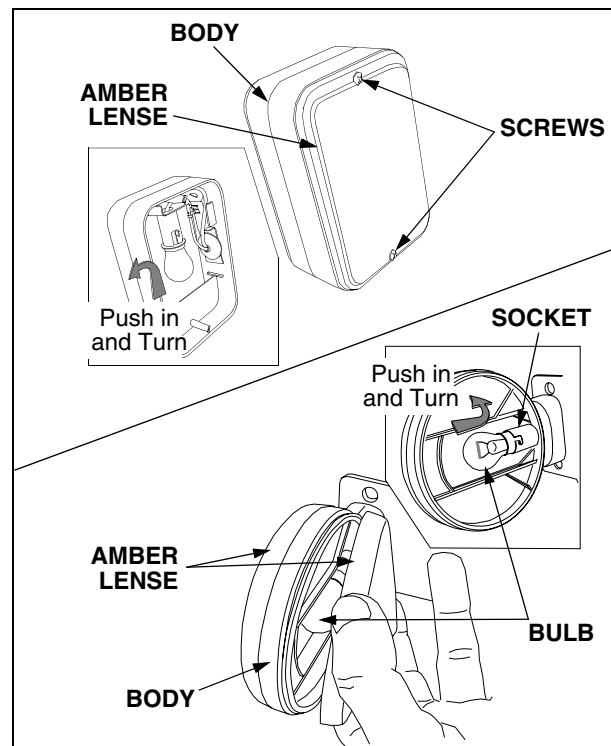

Figure 36
- **Round Hazard Light ONLY** — Insert a **thin** bladed screwdriver, or similar tool, between an amber lense and the hazard light body, then twist to separate the lense from the body. Refer to Figure 36.
- **Rectangular Hazard Light ONLY** — Remove the two screws from either the front or rear amber lense; then slide the lense out of the body. Refer to Figure 36.
- Push the bulb inward and turn counterclockwise, then pull the bulb outward to remove from the light socket. Refer to Figure 36.